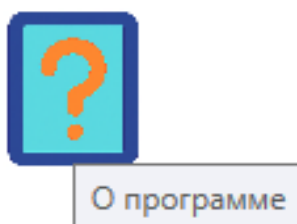

Figure 10 – "About" Button
b) The "About" button (Figure 10) opens the corresponding "About" window.